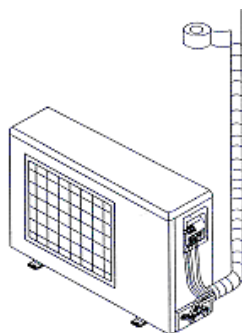

Figure 3-1-7
- ◆ Use thermal insulation tape to wrap the pipes from the bottom of the outdoor unit until the upper end of the pipe where the pipe enters the wall. When wrapping thermal insulation tape, the later circle of tape must cover half of the former circle of tape (Figure 3-1-7).
- ① . After the pipes are wrapped by protective materials, never bend the pipes to form sharp angle. otherwise the pipes may crack or break.
- ② . Do not wrap the protective tape too tight, otherwise the efficiency of thermal insulation may be decreased. Ensure that the condensate drainage flexible tube is separate from the bundled pipes.
- ③ . After the protective work is completed and the pipes are wrapped, use seal material to block the hole in the wall, so as to prevent rain and wind from entering the room.